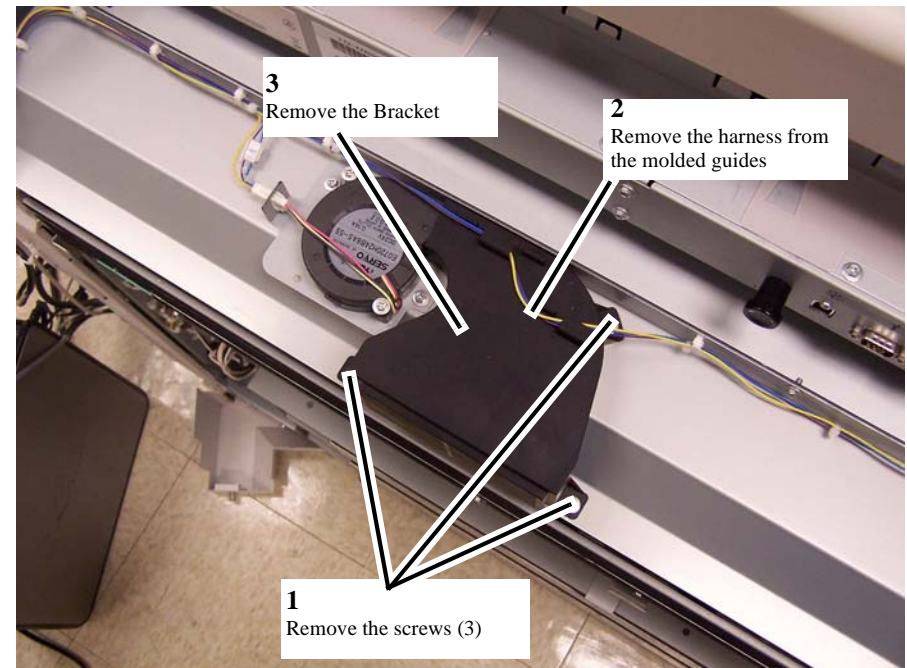

Figure 1 Removing the Bracket from the Duct Plate
3. Remove the Bracket from the Duct Plate (Figure 1).